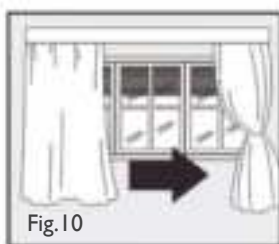

Fig.10
- Protect the room from direct exposure to the sun by partially closing curtains and/or blinds to make the appliance much more economical to run (Fig.10)